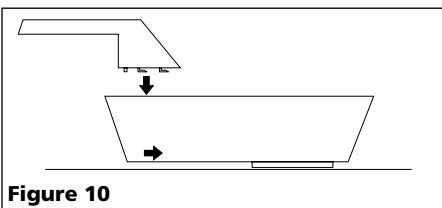

Figure 10
4. To attach the handle, place shield on a flat surface and press handle into place (See Figure 10).